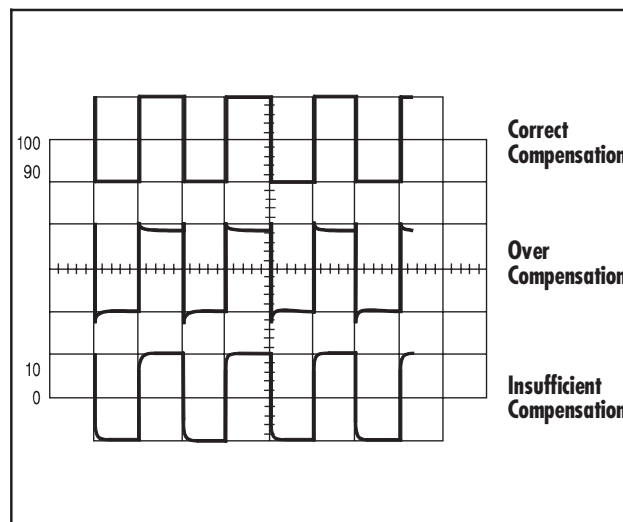

Fig. 11. Probe Compensation Adjustment.
5. Adjust compensation trimmer on probe for optimum square wave (minimum overshoot, rounding off, and tilt). Refer to Fig. 11.